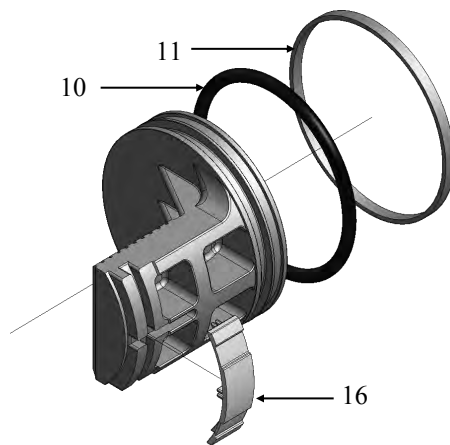

Fig. 8.2
- b. End Caps (2)
- c. Upper Pinion O-Ring (1)
- d. Lower Pinion O-Ring (1)
- e. Air Passage Plugs (2)
- f. Stop O-Rings (2)
- g. Pinion Bearing (1)
- h. Thrust Bearing (1)
- i. Flange Washer (1)
- a. Piston O-Rings: will be the thickest O-Rings (2 pieces), (#10 fig. 8.2)
- a. Piston Skates (#16 fig. 8.2)